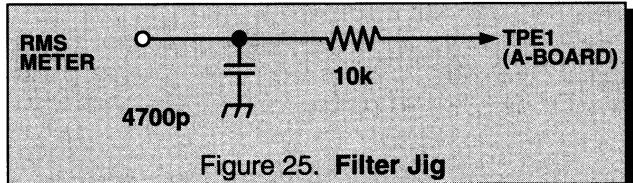

Figure 25. Filter Jig
2. Connect the RMS Meter with filter jig as shown in Fig. 25.